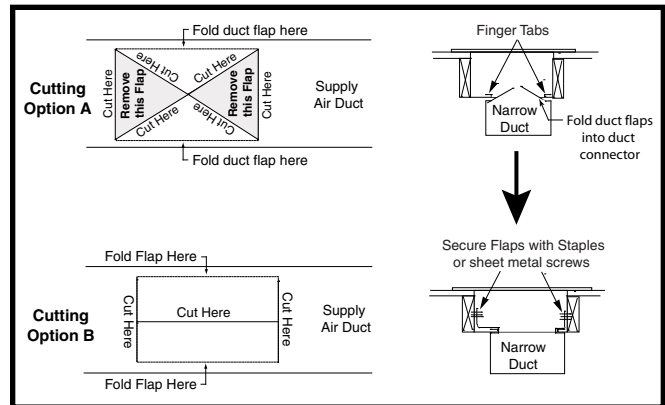

Figure 12. Narrow Air Ducts - Option 1
1. Select Option A or Option B in Figure 12 and cut the top of the supply air duct. Remove metal flaps from the duct (shaded area) if Option A is selected.
5. Form the duct flaps up against the side of the duct connector as tight as possible. See Figure 12.